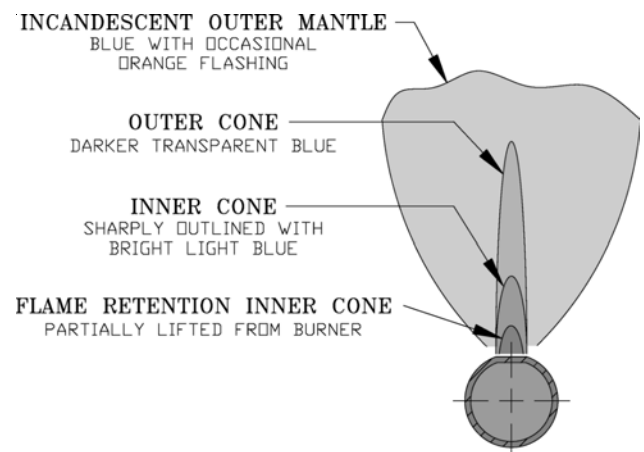

Figure 24: Main Burner Flame
- 10) Inspect the main burner flames visible through the observation port in burner access panel. The flame should be stable and mostly blue. See Figure 24. No yellow tipping should be present; however, intermittent flecks of yellow and orange in the flame are normal.